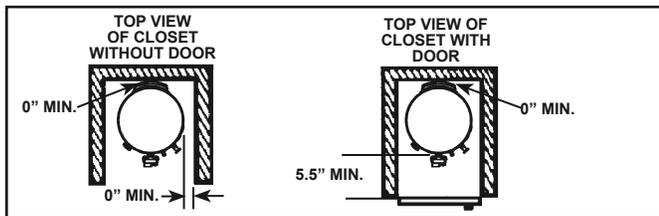
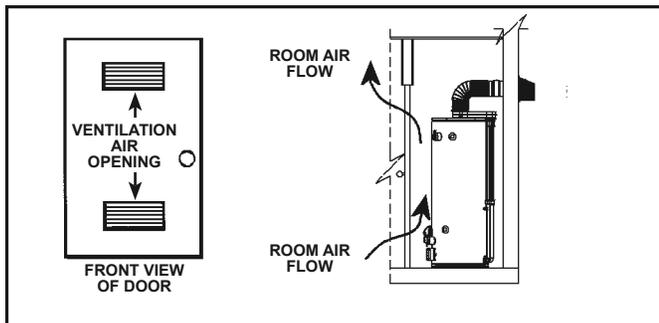

Figure 6
Figure 7
4. Carefully plan the place where you are going to put the water heater. Correct combustion, vent action, and vent pipe installation are very important in preventing death from possible carbon monoxide poisoning and fires (see Figure 6). Examine the location to ensure the water heater complies with the “Locating The New Water Heater” section in this manual.
When installed in a confined space such as a closet, it is recommended that the confined space be ventilated to minimize the buildup of heat around the heater. Figure 6 and Figure 7 show an examples of ventilating a confined space.
Minimum clearances between water heater and combustibles are 0" at the sides and rear, 5.5" from the front and 12" from top. Minimum clearances from vent piping to combustibles is 1" except as noted in Figure 21. If clearances stated on the heater differ from these clearances, install water heater according to clearances stated on the heater (see Figure 6).